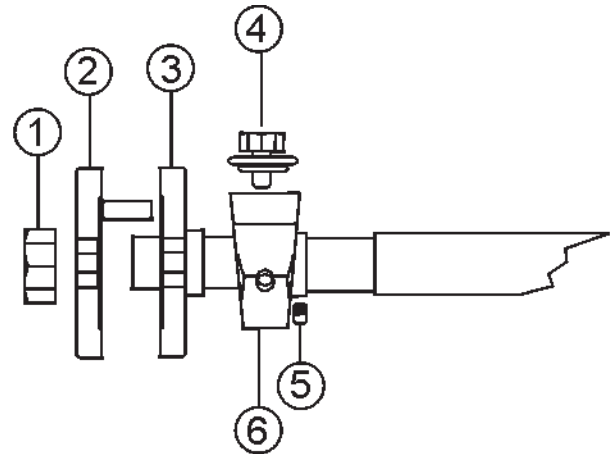
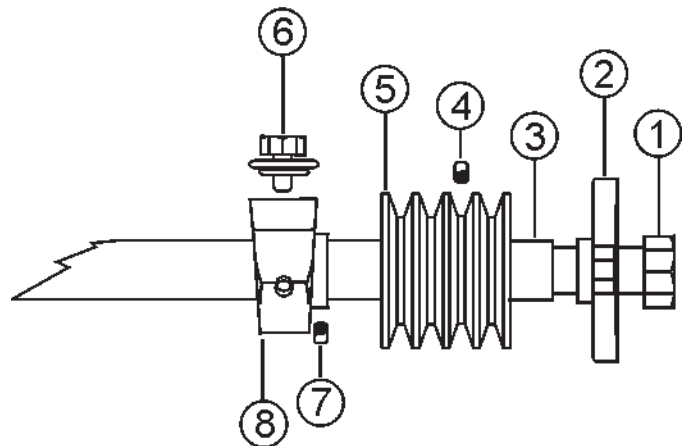

Figure 57. Blade Side Bearing (Right Side)
Figure 58. Pulley Side Bearing (Left Side)
The Cutter 3 CE saw is supported by “tapped base lock collar (w/set screw)” self-aligning **Blade Shaft Bearings** (Figures 57 and 58). These heavy duty bearings support the 1-1/4 blade shaft, and have grease (zerk) points conveniently located for service.
Reference Figure 57 & Figure 58 for steps 4-9
4. Remove **Blade Hex Nuts** (Figures 57 & 58, item 1) and
**Outside/Inside Blade Flanges** (Figures 57, item 2 & 3)
5. Loosen **set screws** (Figure 58, item 4) and slide **Pulley** (Figure 58, item 5) off the Blade Shaft. Loosen Bearing set screw, remove **Bearing Bolt** (Figure 58, item 6) and slide the **Blade Shaft Bearing** (Figure 58, item 8) off the blade shaft.
6. Loosen **set screws** (Figure 57, item 5), remove **Bearing Bolt** (Figure 57, item 4) and slide the **Blade Shaft Bearing** (Figure 57, item 6) off the blade shaft.